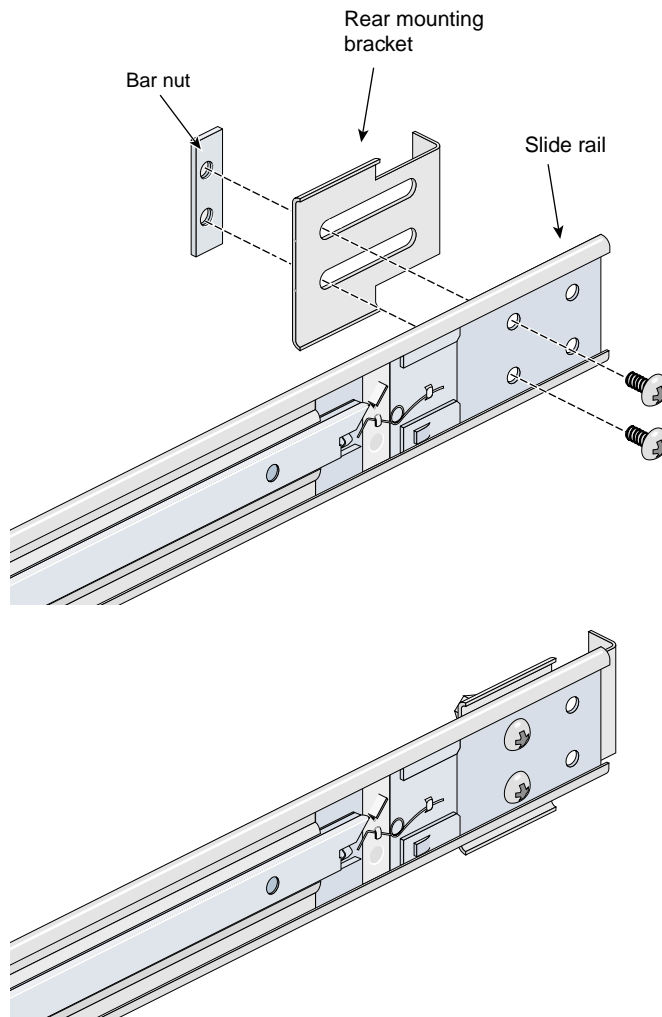

Figure C-7 Attaching the Rear Mounting Bracket to the Slide Rail
4. Place one of the mounting brackets on the back of the slide rail as shown in Figure C-7. Adjust the position of the mounting bracket on the slide rail according to the depth of the rack.
5. Place a bar nut next to the mounting bracket. Secure the mounting bracket to the slide rail by inserting two 10-32 x 1/2-inch screws through the assembly and into the bar nut as shown in Figure C-7.